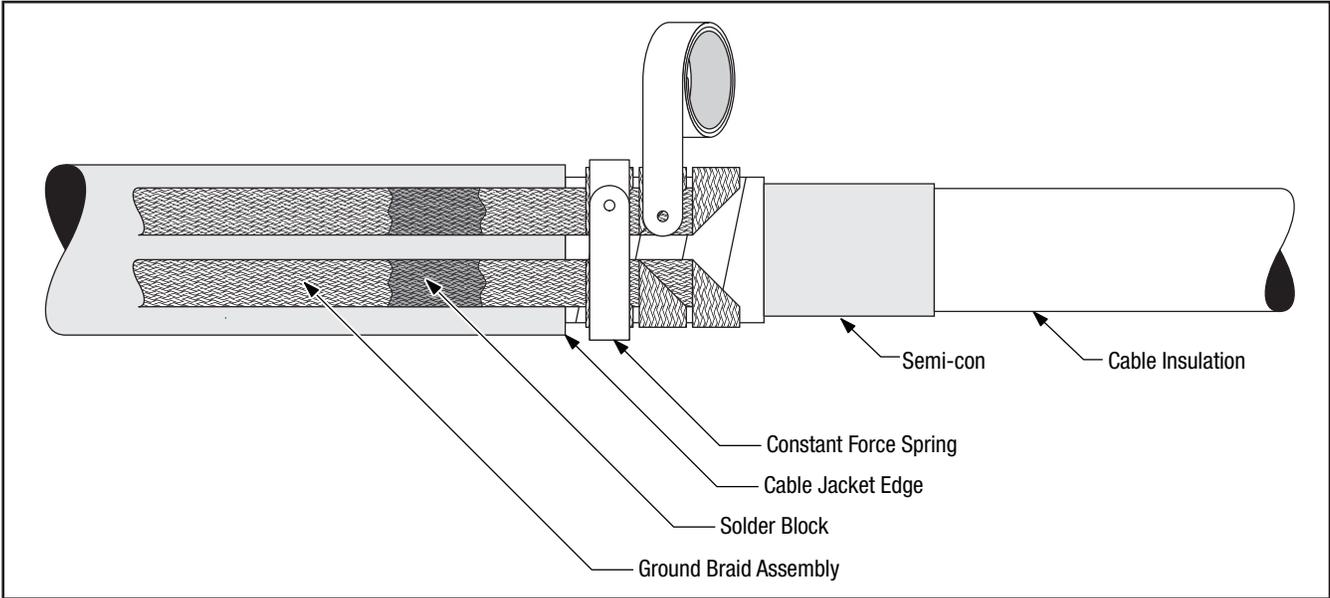

Figure 4
2.3 Select the 3 constant force springs from the kit. Starting at the loop of the ground braid assembly nearest the cable jacket edge, install the 3 constant force springs, one around each ground braid loop. Cinch (tighten) the springs after wrapping the final turn. Extend the ground braid tails down the cable jacket. (Figure 4)